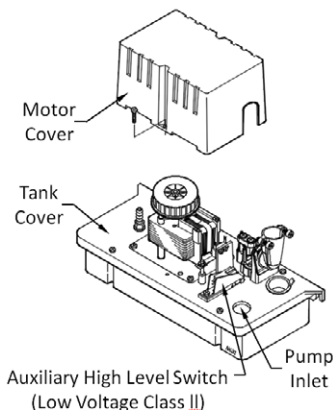

Figure 2
- a. The auxiliary high level switch (Figures 2 and 3) should be connected to a Class II Low Voltage circuit. The two auxiliary high level switch wires are Black. Do not confuse these wires with the line voltage power conductors (see Line Voltage above).
- a. If "NC" configuration is required, remove the pump's motor cover from the tank cover (Figure 2).
- a. Run flexible tubing or pipe from evaporator drain into pump inlet (Figure 2).